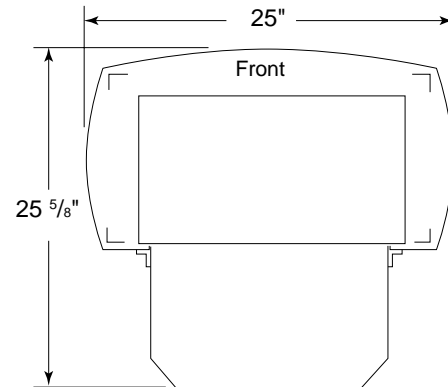

Figure 5 - Stove with Burner System Bottom Dimensions
4. This stove is a freestanding unit designed to set directly on the floor. If your stove is to be installed directly on carpeting, vinyl tile, or any combustible material other than wood, it must be installed on a metal or wood panel extending the full width and depth of the stove. See Figure 5, page 5.